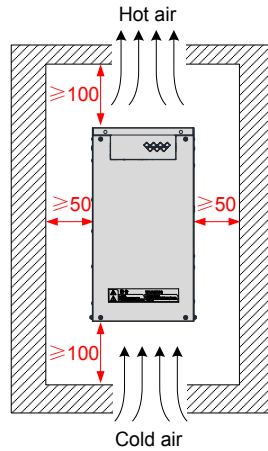

Figure 2-2 Dimensions of the AFE installation space (mm)
- Install the AFE on the surface of an incombustible object, and ensure that there is sufficient space around for heat dissipation. See Figure 2-2 for information.